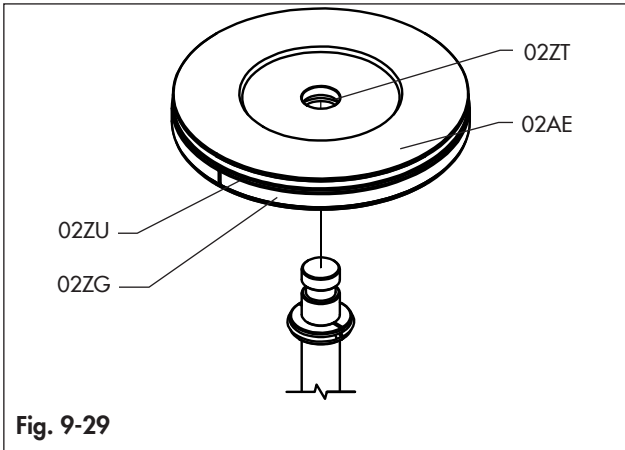

Fig. 9-29
- Remove the bearing tape (02ZG) and the o-rings (02ZT and 02ZU) from the piston (02AE). (Fig. 9-29).